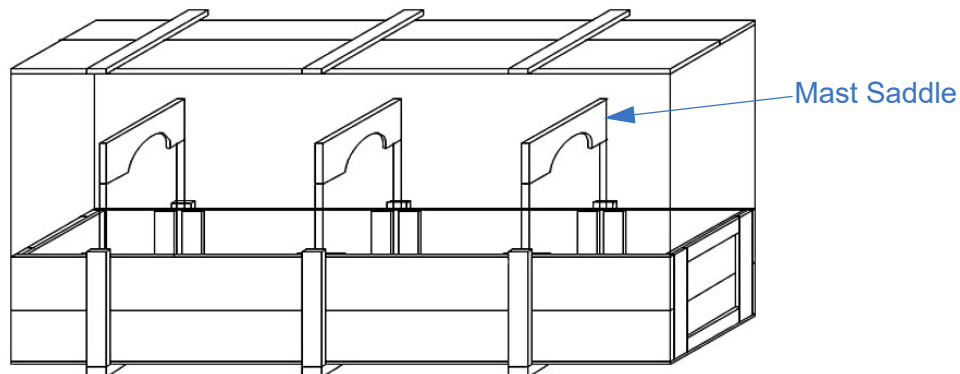

Figure 5-2 Shipping Crate
2. Remove all loose components, the 2 x 4 inch (38 x 89 mm) block at the top end of the mast, and the top half of the wooden mast saddles (Figure 5-2).